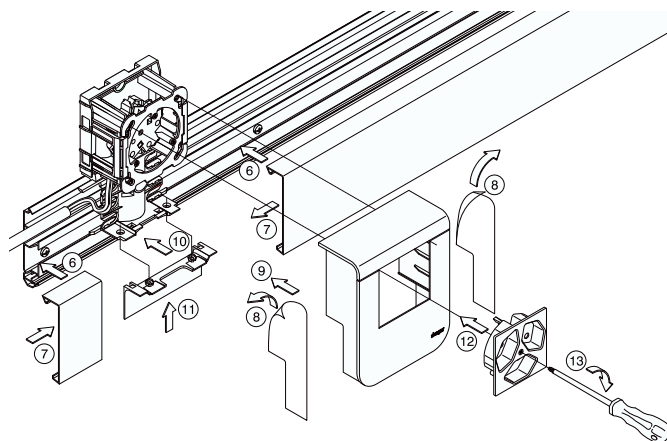

Figure 4
4. Attaching the top parts of trunking and device carrier (fig. 4)